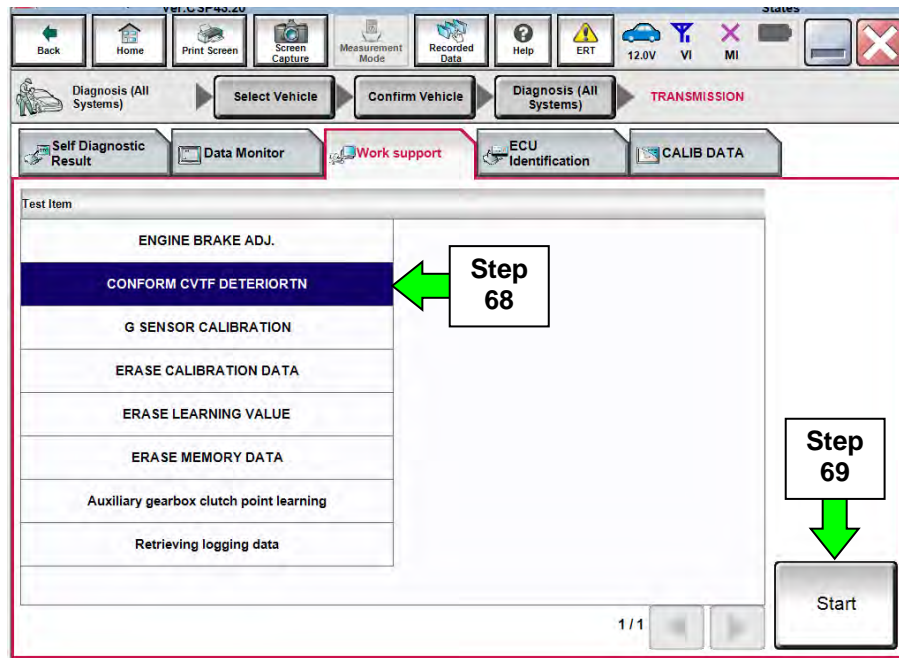

Figure 36
67. Navigate C-III plus to the screen shown in Figure 36.